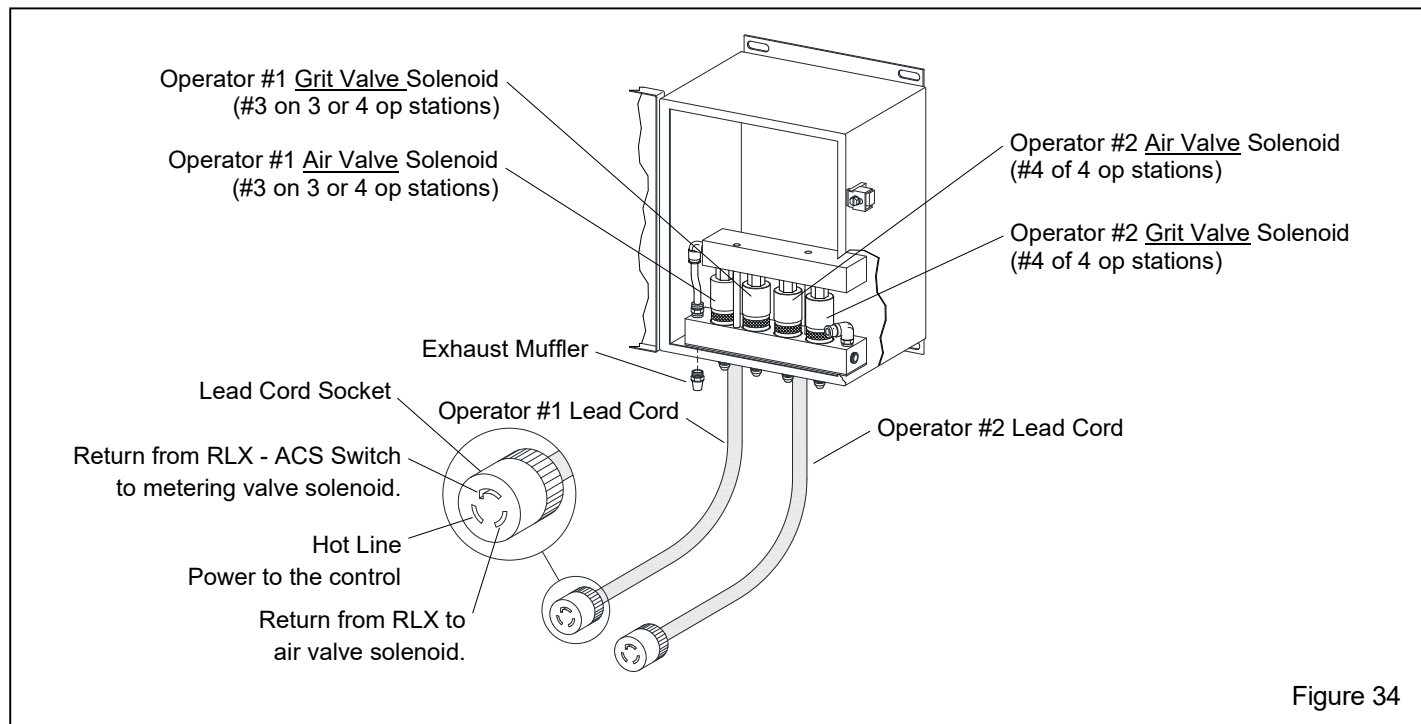

Figure 34. The slot to the left (counter-clockwise of the angled slot) is the hot line, which carries the power from the panel to the RLX control handle.
8.4.1.7 Check operation of the control panel – Figure 34
- The air valve solenoid (refer to Figure 34) is stuck.
- The metering valve solenoid (refer to Figure 34) is stuck.